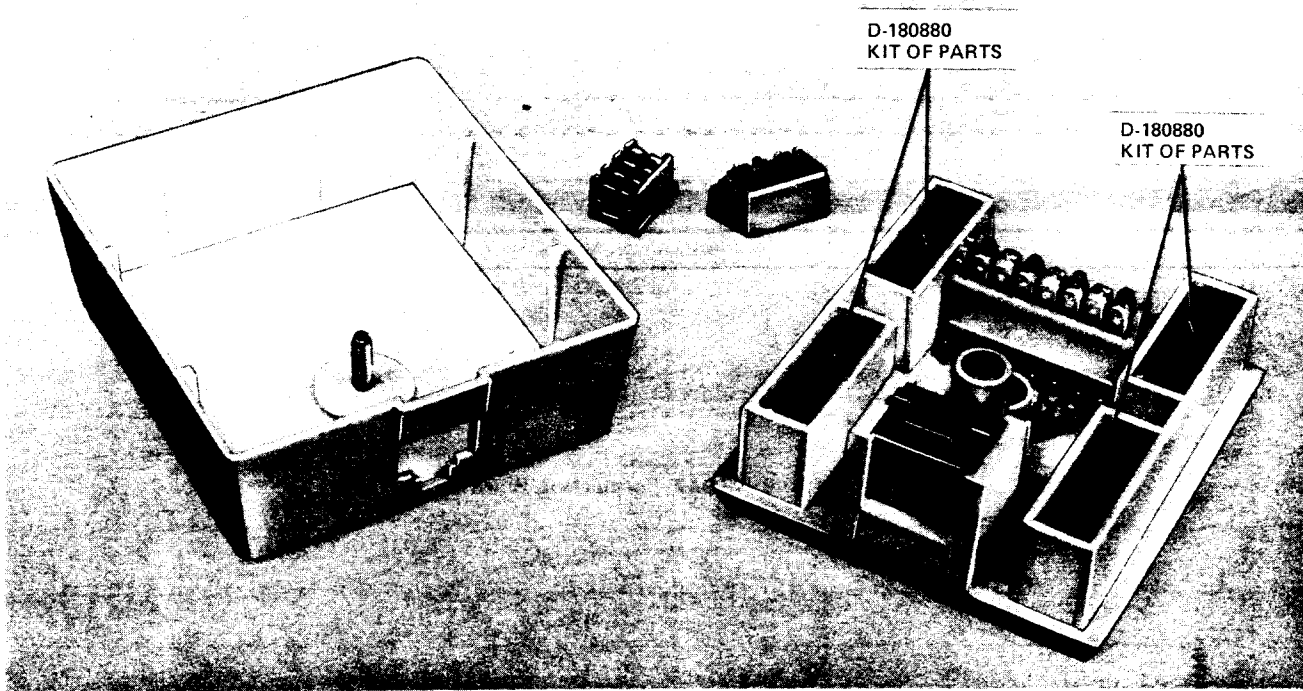

Fig. 8— 103A Connecting Block
2.07 The 103A connecting block (Fig. 8) is used to connect one modular telephone set to the line. It is available in ivory only and consists of a plastic base containing an 8-contact jack, an 8-position quick-connect field, two plastic wire terminating caps (paragraph 1.03), and a screw-attached cover.